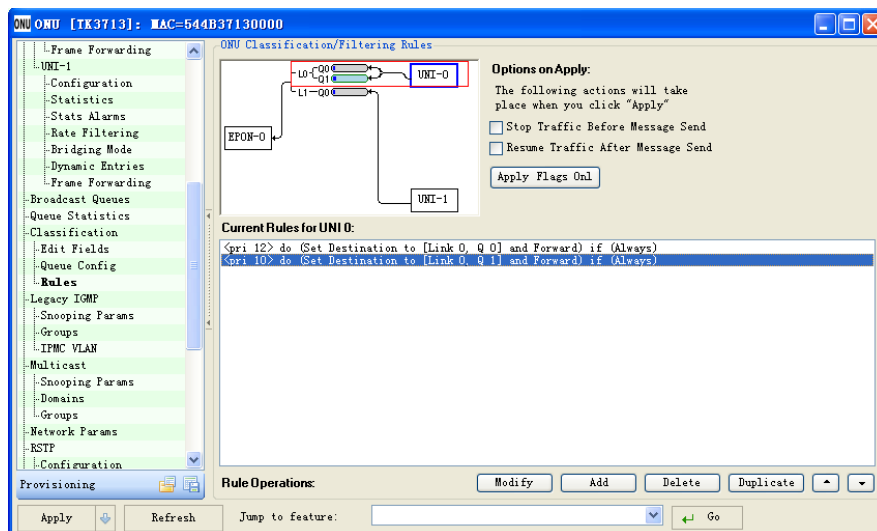

Figure 8-19 New Rule Display
- 4) After setting, click Ok and the main window will display the new configuration; then the queue Q1 of the link L0 is also connected to the Uni-0 shown in the Figure 8-19.